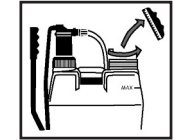
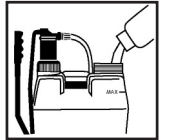

Fig. 3
Fig. 4
- Unscrew and pour the spray preparation into the tank through the filter (Fig.3 and Fig. 4).